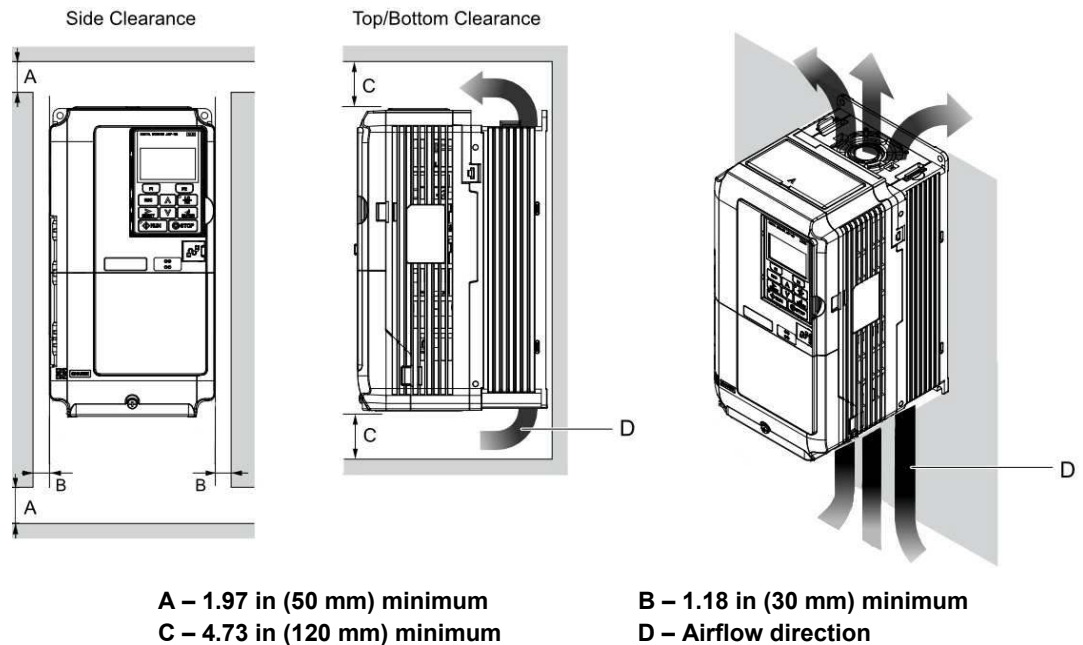

Figure 2-3: Correct Installation Spacing
5. Ensure that the air can flow freely around the heat sink as shown in Figure 2-3.